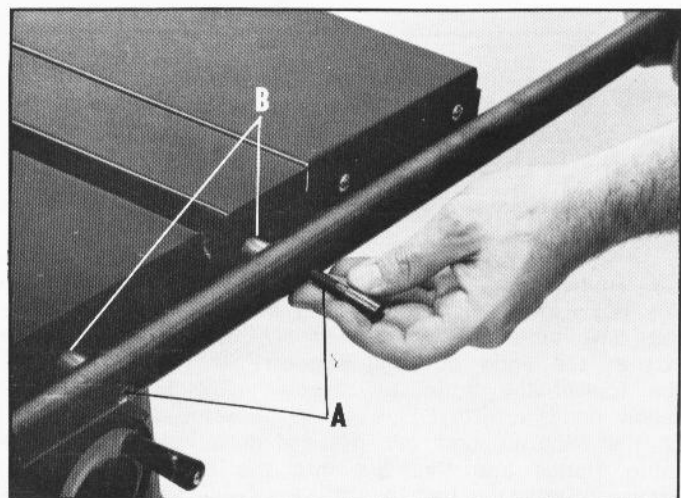

Fig. 12
1. Install the guide rail with the calibrations on the front of the saw table using the two special screws (A) and two large spacers (B) provided, as shown in Fig. 12. With the guide rail extending to the right of the table, insert each screw thru the guide rail, large spacer, wing support bar, table flange and thread it into the reinforcing bar. Tighten all screws going into the reinforcing bar.